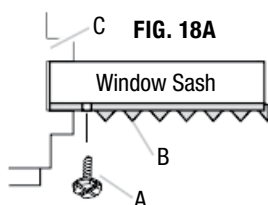
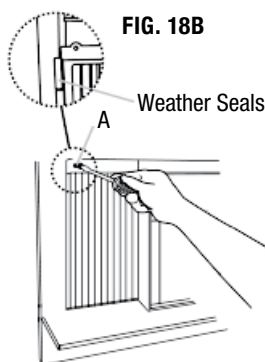

FIG. 18A
FIG. 18B
2. Use 1/8" drill bit to drill a starter hole through the hole in the top leg of each accordion panel and into the window sash. (Fig. 18A and Fig. 18B) Connect with one 3/4" (or 1/2") long hex head screw.